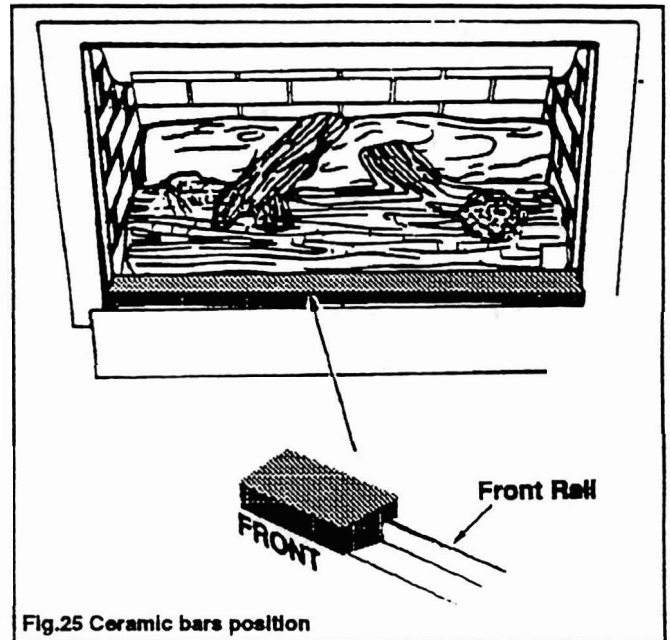

Fig.25 Ceramic bars position
- 15.6 Place the two ceramic bars over the front rail of the firebox (see figure 25).